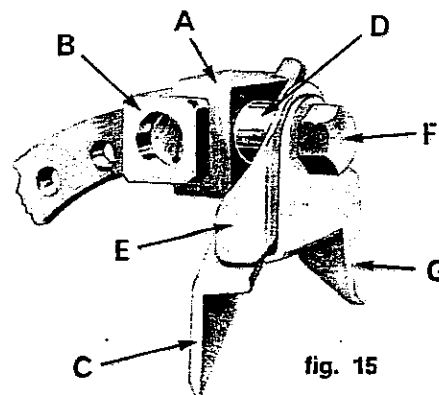

fig. 15
10. Mounting upper trimmer knife (fig. 15).